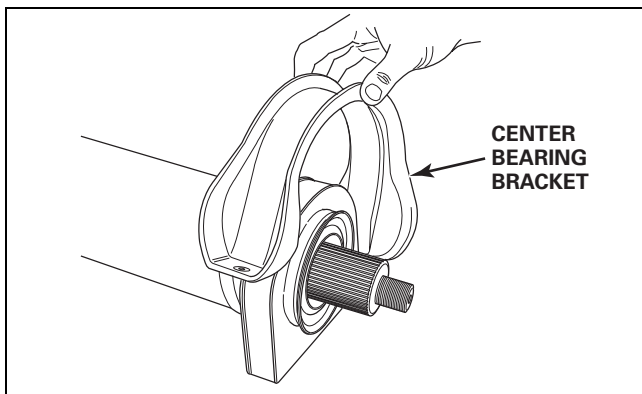

Figure 9.9
1. Remove and discard the center bearing bracket. Figure 9.9.